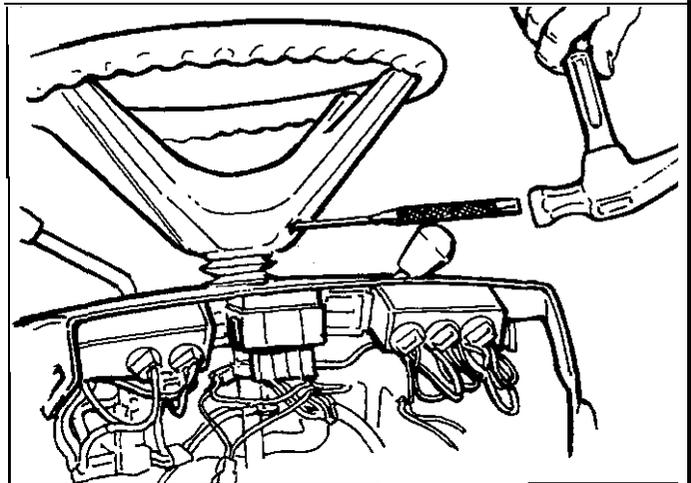

Figure 32. Steering Wheel Removal
1. Use a suitable drift to remove the roll pin at the base of the steering wheel (see Figure 32).